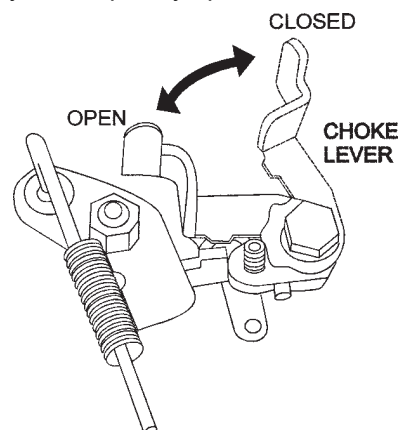

Figure 10. Choke Lever (Closed)
4. In cold weather, start the unit with choke lever "Fully Closed" (Figure 10). In warm weather or when the engine is warm, the unit can be started with choke halfway or completely open.
6. If engine fails to start, move the choke lever (Figure 10) to the half open position to avoid flooding.